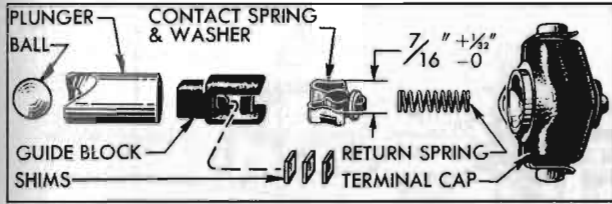

Figure 10-33—Carter Accelerator Vacuum Switch Parts
1. Disconnect wires from terminals. Hold down on switch terminal cap while removing hold down clip. Remove terminal cap and return spring, then lift out switch guide block with contact spring and shims. Do not lose timing shims and the spring washer on contact spring. See figure 10-33.
4. Check condition of contact spring and replace it if burned or otherwise damaged. The free width of spring across the points, with return spring washer in place is  $\frac{7}{16}$ " +  $\frac{1}{32}$ " - 0. See figure 10-33.